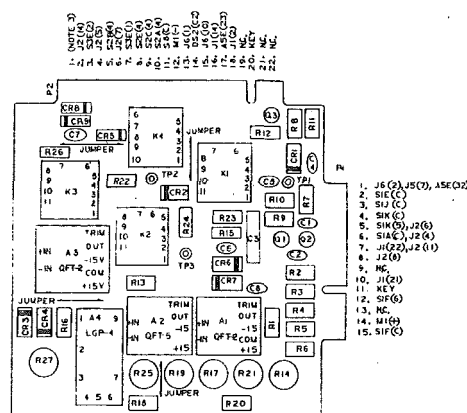

Figure 5-3. Relay & Amplifier Assembly (A3) Adjustments
- d. Adjust potentiometer R14 for a voltmeter indication of  $0V \pm 300\mu V$ . See Figure 5-3. for the location of this adjustment.
- f. Adjust potentiometer R25 for a voltmeter indication of  $0V \pm 300\mu V$ . See Figure 5-3. for the location of this adjustment.
- h. Adjust potentiometer R21 for a voltmeter indication of  $0V \pm 300\mu V$ . See Figure 5-3. for the location of this adjustment.
d. Adjust potentiometer R27 for a voltmeter indication of  $100\text{mV} \pm 1\text{mV}$ . See Figure 5-3. for the location of this adjustment.
c. Adjust potentiometer R17 for a front panel meter indication of  $60\text{dB} \pm 0.5\text{dB}$ . See Figure 5-3. for the location of this adjustment.
e. Adjust potentiometer R19 for a front panel meter indication of  $114\text{dB} \pm 0.5\text{dB}$ . Allow sufficient time for the meter indication to settle. See Figure 5-3. for the location of this adjustment.